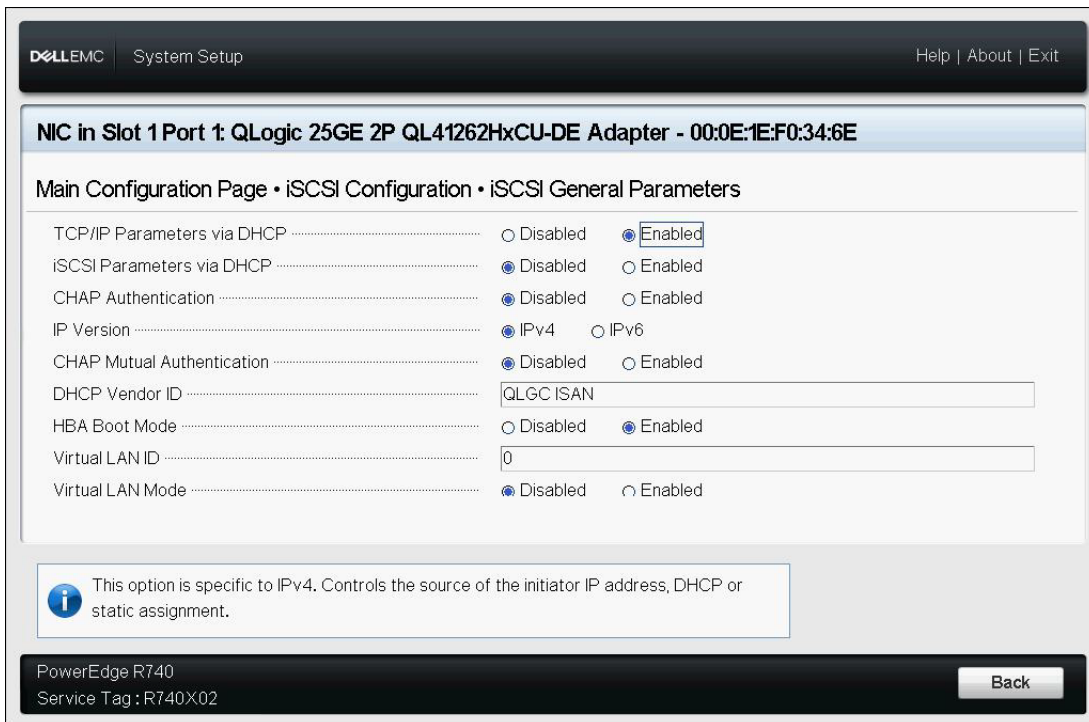

Figure 5-11. iSCSI General Parameters
- iSCSI General Parameters** (Figure 5-11 on page 58)